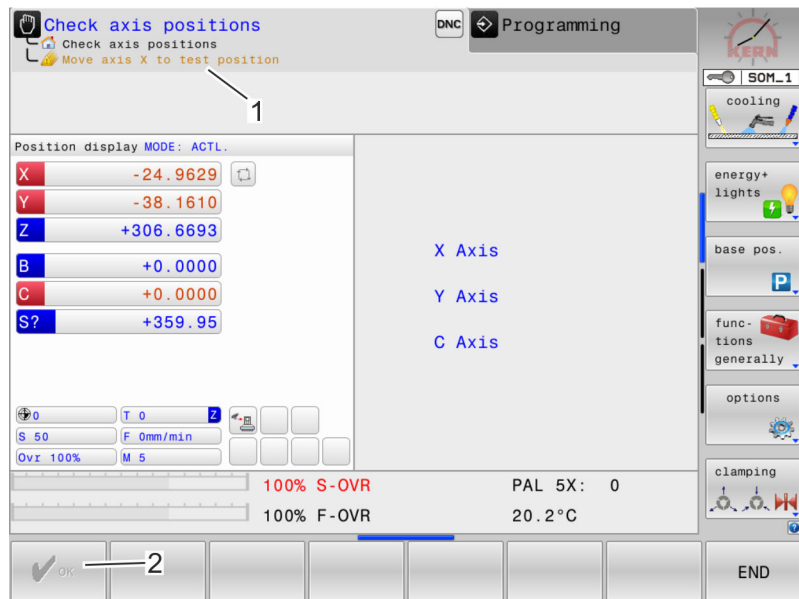

Fig. 44: Is the axis at the test position?
8. ➤ Confirm the dialogue on the monitor (Fig. 44/1) with the “OK” softkey (Fig. 44/2).